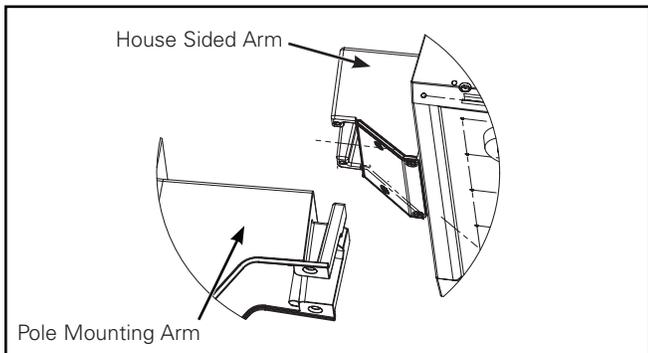

Figure 10.
- Fold fixture wires tightly towards the mounting arm as sliding fixture's house side arm on to pole mounting arm. Now tighten the center Philips head screw to 20 in-lbs. (2.3 N-M). Now fixture's house side arm and pole mounting arm are connected. (Figure 10.)